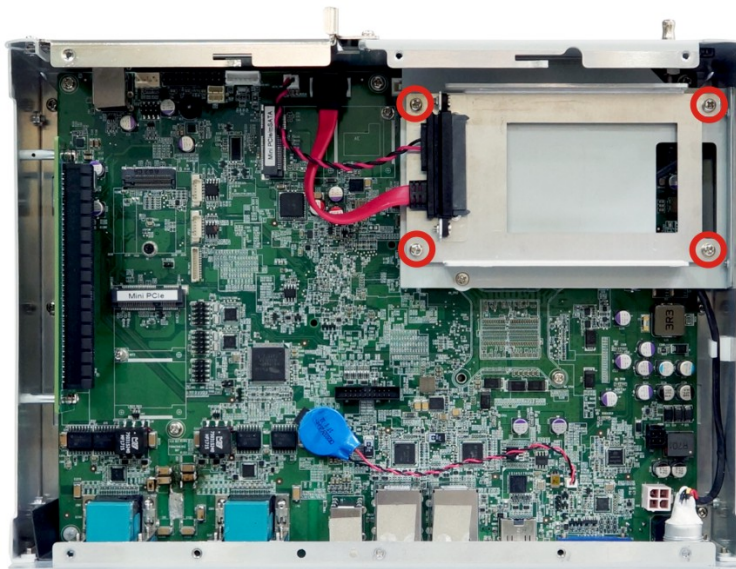

Figure 3-2: HDD Bracket Retention Screws
- Step 2:** Locate the HDD brackets inside the system. Remove the four HDD bracket retention screws (**Figure 3-2**), and disconnect the SATA cable and the SATA power cable. Lift the HDD bracket.